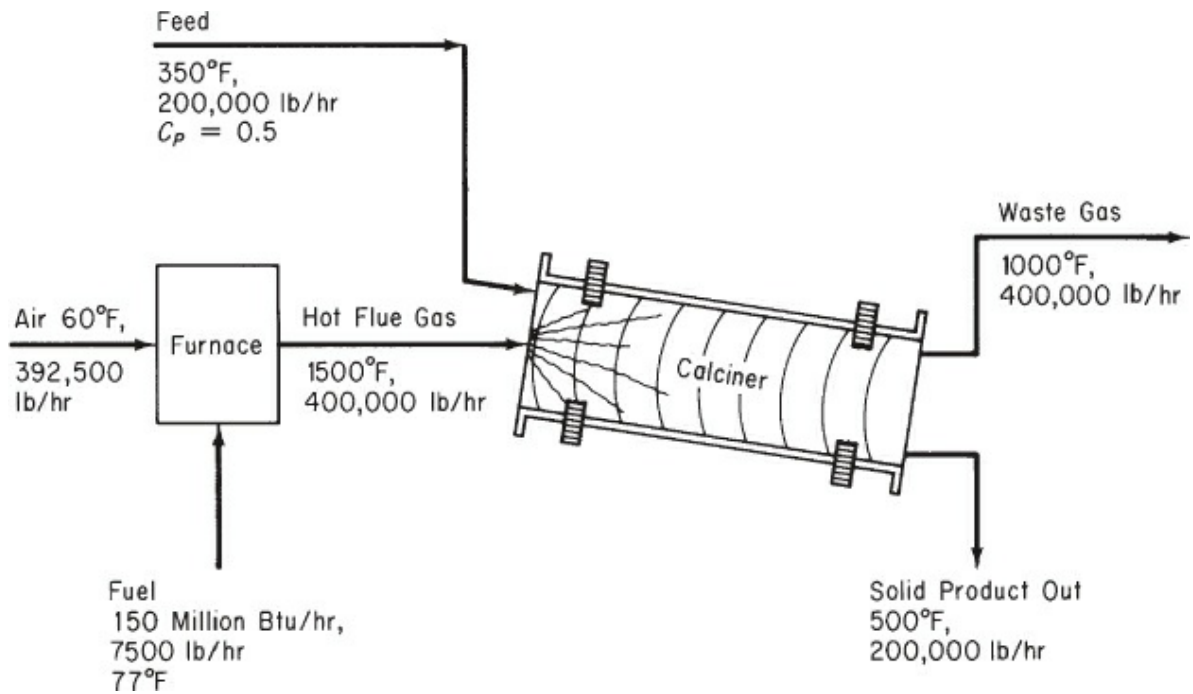

Figure P14.4
14.4 Figure P14.4 shows a calciner and the process data. The fuel is natural gas. How can the energy efficiency of this process be improved by process modification? Suggest at least two ways based on the assumption that the supply conditions of the air and fuel remain fixed (but these streams can possibly be passed through heat exchangers). Show all calculations.